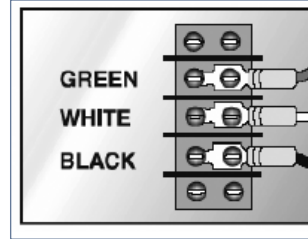

Figure 1
- 5 - Connect electric supply line to terminal strip (see figure 1).